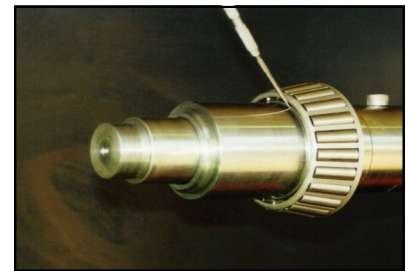

Fig 5.
- Step 4.** Fit the spacer onto the axle, large end first, ensuring that it seats against the inner bearing race, Fig 5.